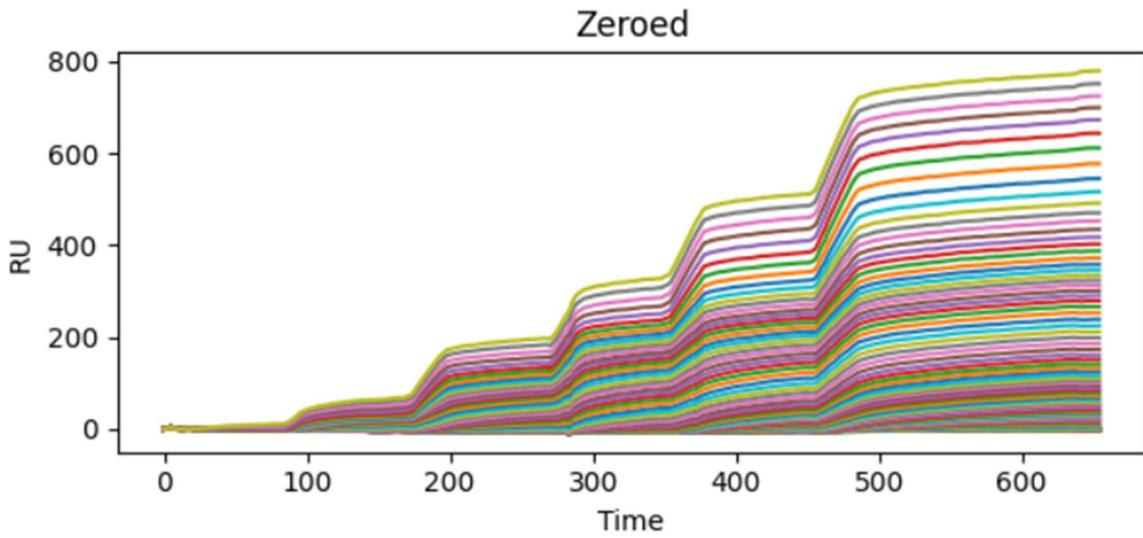

Figure 2. Anti-Her2-Biotin continuous ligand density gradient generation. Process of gradient generation plotted in time.
- Gradient generation curve, Figure 2.
During gradient generation, a continuous variation in ligand density was observed across the sensor surface. Ligand density varied along the pixel axis as recorded in the gradient profile. (fig. 2.)